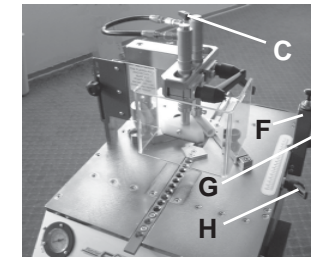
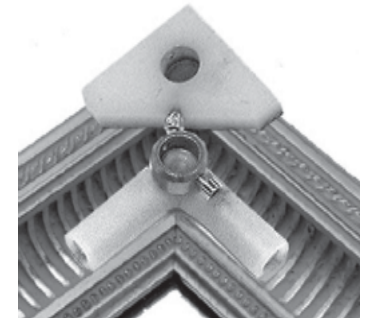
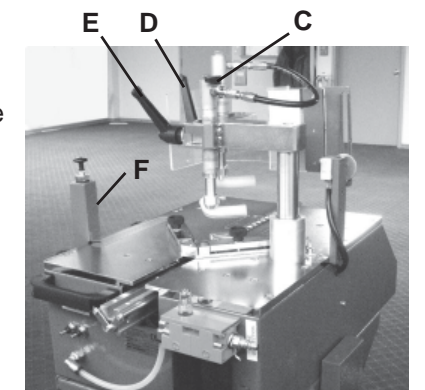

Figure 5
Figure 4
Figure 6
- Loosen **Locking Levers (D and E)** and slide the two cylinders so they are positioned over the frame corner as suggested in Figure 4. The intent is to provide backing support for the insertion of **Nails** along the joint in the frame. The 5700 can accommodate a difference in height of the two pads up to 2-3/8" (60mm). Raise or lower them so each is 3/4" to 1" (20mm to 25mm) above the frame and tighten **Locking Levers (D and E)** in Figure 6. Be sure the square pins are located in notches to prevent slippage. After tightening, be sure the **Locking Levers (D and E)** are not pointing downward because they may hit the table when the **Upper Clamps** descend. You can pull the handle free and rotate it. If a small frame is being joined, slide the rear **Clamp** out of position and close the **Valve (C)** in Figures 5 and 6 on top of the rear **Clamp**. Position the other **Clamp Pad** over the corner of the frame.